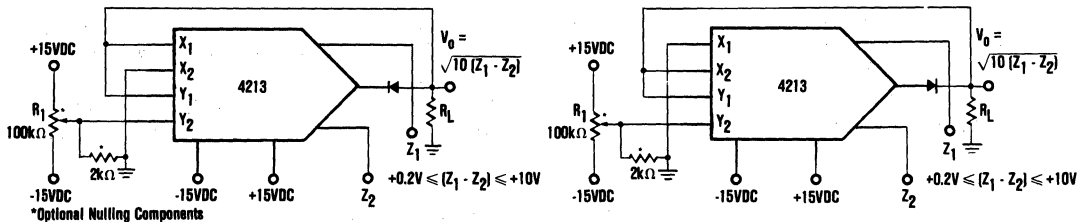

FIGURE 8. Square Root Connection.
8.3.4 Square Root. Figure 8 shows the connection for taking the square root of the voltage $V_{Z1} - V_{Z2}$. The diode prevents a latching condition which could occur if the input momentarily changed polarity. The load resistance R_L must be in the range of $10k\Omega \leq R_L \leq 1M\Omega$ to provide the current necessary to operate the diode. The output offset should be nulled for optimum performance; allow the input to be its smallest expected value and adjust R_1 for the proper output voltage. The square root mode accuracy is then approximately that of the multiply mode.